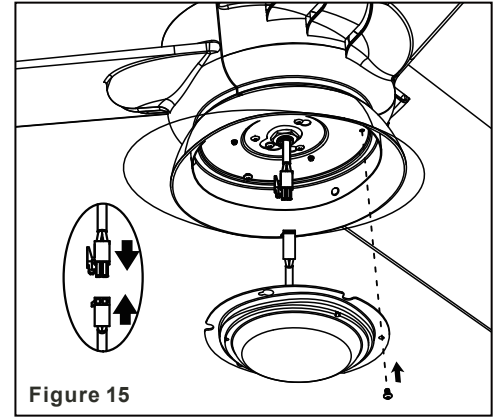

Figure 15
Step 2. Tuck the connections neatly into the light kit. Align three round holes on the light kit and switch housing. Securely tighten with 3 screws (Fig.15)